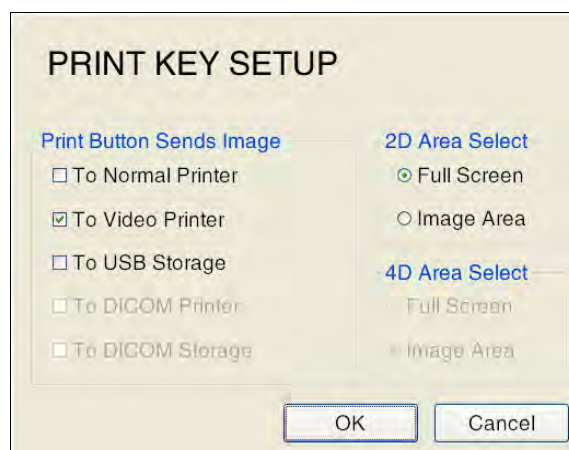

Figure 26: Print Key Setup
**Print Key Setup** allows users to define the printer key. This option is not available for selection if this function has not been activated. See Figure 26 for the **PRINT KEY SETUP** screen. Click on **Setup on the control panel** to open the **SETUP** screen, then click on **Print Key Setup** to open the **PRINT KEY SETUP** screen.